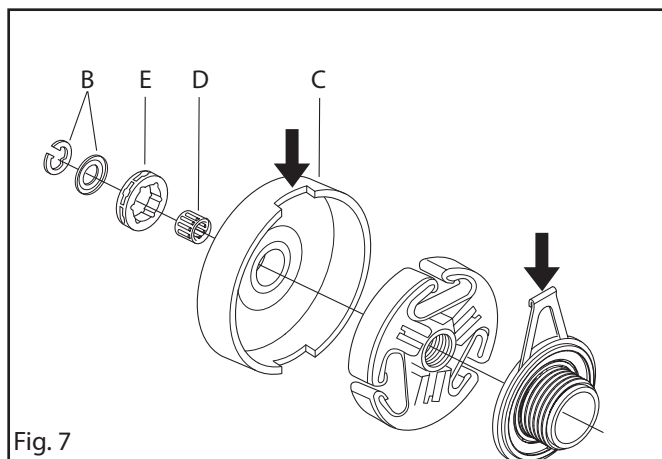

Fig. 7
3. Grease the needle bearing before fitting. Fit the clutch drum (C) with needle bearing (D) and chain drive sprocket (E). See figure 7.
4. Exercise care to ensure that the clutch drum and oil pump gear fit in the cut-out in the drum. See figure 7.